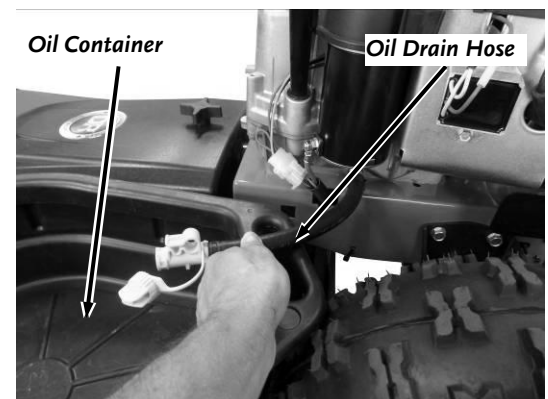

Figure 29
2. Turn the Oil Drain Cap a quarter turn counterclockwise and open the end of the Drain Hose Assembly (**Figure 29**).